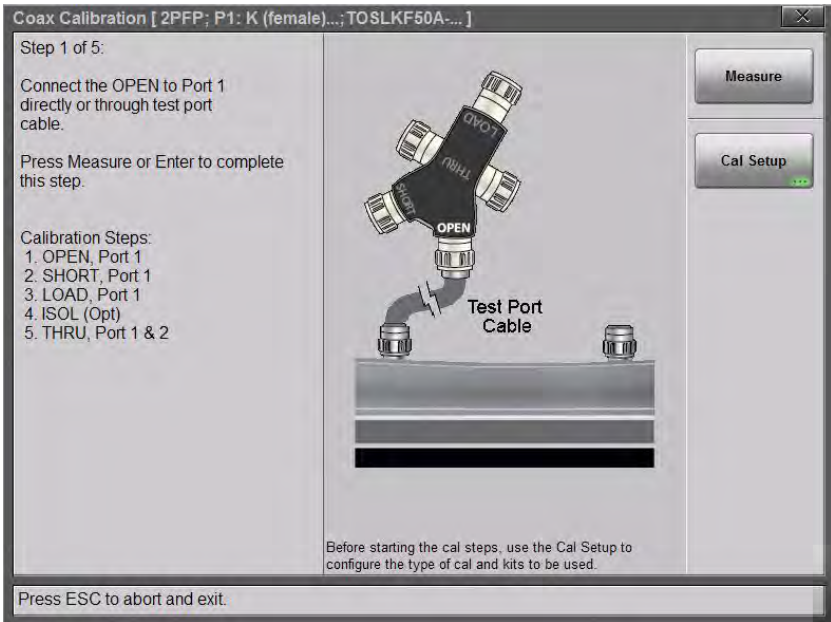

Figure 5-10. Calibration Dialog Box for Coax
4. Press **Measure** and follow the on screen instructions (see Figure 5-10 on page 5-16).
Figure 5-10 shows the Calibration dialog box showing calibration setup and calibration steps. On-screen instructions are given for each step.